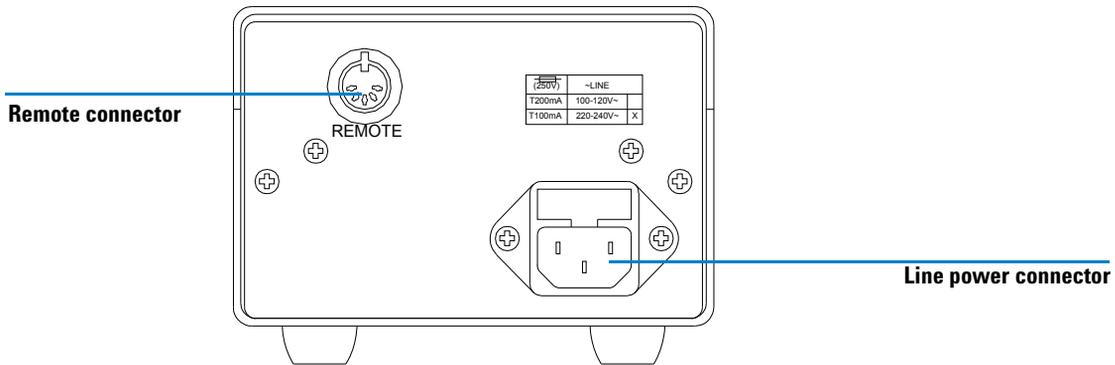

Figure 37 Rear View of Peristaltic Pump
The appropriate power cord is supplied with the sipper system. It plugs into the power-input socket at the rear of the pump, see Figure 37 on page 127. The male end of each power cord is different and designed to match the wall socket of a particular country or region.
- 2 Push the connector of the power cord into the line power connector on the rear panel of the pump, see Figure 37.
- 4 Push the connector of the sipper-GPIO cable (G1103-61609) or sipper/sampler-GPIO cable (part number G1103-61608) into the remote control connector on the rear of the pump, see Figure 37.